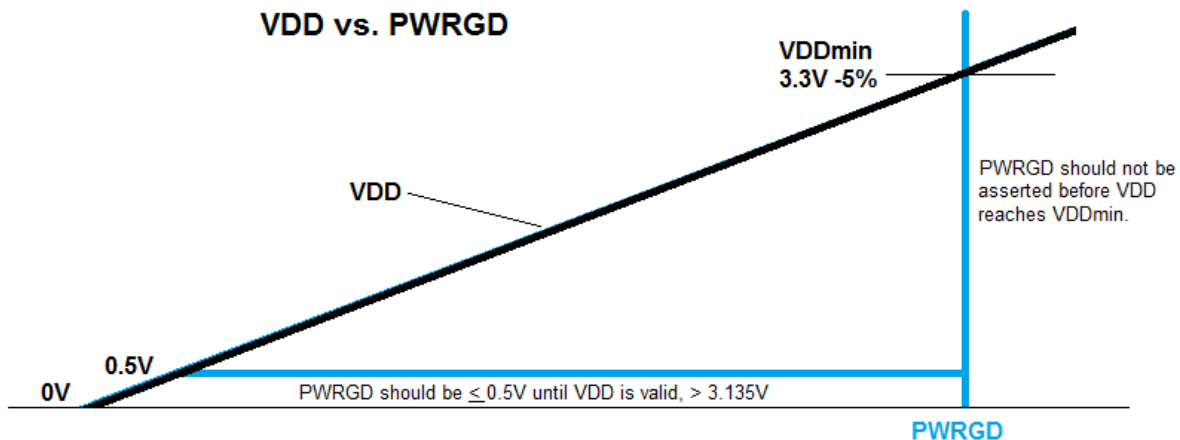

Figure 9. PWRGD and VDD Relationship Diagram
4. Once the VDD pin has reached a valid VDDmin level (3.3V –5%), the PWRGD/PWRDN# pin must be asserted High. See Figure 9.